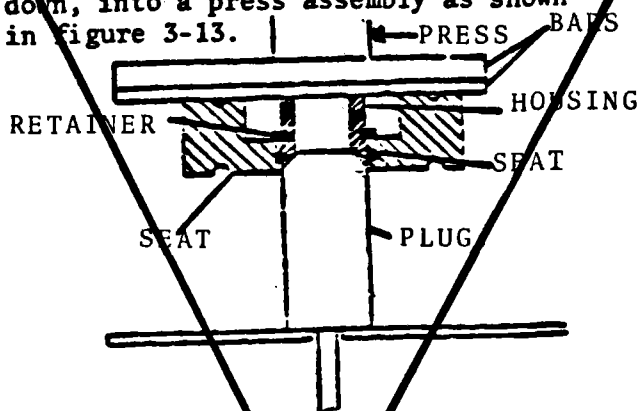

FIGURE 3-13. INSTALLING SEAT HOUSING
g. Slide retainer (4) onto the seat housing, against the seat ring.
h. Place the plug, with stem down, into a press assembly as shown in figure 3-13.
g. Install springs (7) into the cylinder.
h. Install two all-thread studs of a length at least 50% longer than the length of the cylinder into the lower cap. Allow the excess length of the studs to extend from the upper cap end. Install lockwashers under the nuts on the lower cap end of the studs and flat washers under the nuts on the upper cap end. (See figure 3-13).